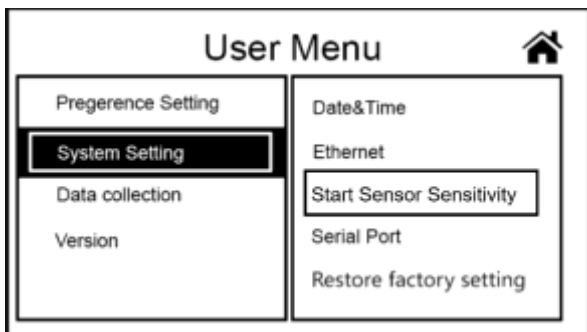
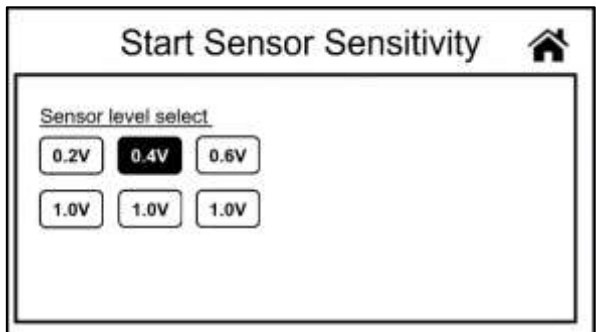

Figure 94
Figure 95
2) As shown in Figure 94, touch “Start Sensor Sensitivity” to enter the setting interface. There are six levels in total, the default is 0.4V, as shown in Figure 95. Users can choose according to their needs, and the shadow of the corresponding position will turn blue. Touch the “” key on the upper right corner of the screen or press the “” key to return to the previous interface.